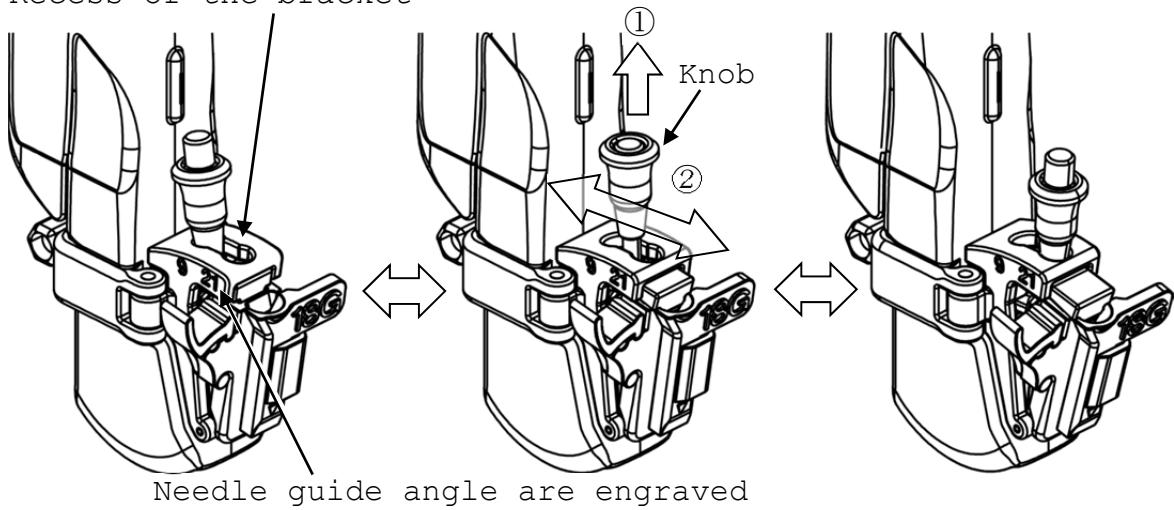

Fig. 12 Setting the needle guide angle
Pull the knob (1) and release it into the recess of appropriate angle of the bracket (2). Needle guide angles are engraved on the bracket. (See Fig. 12)